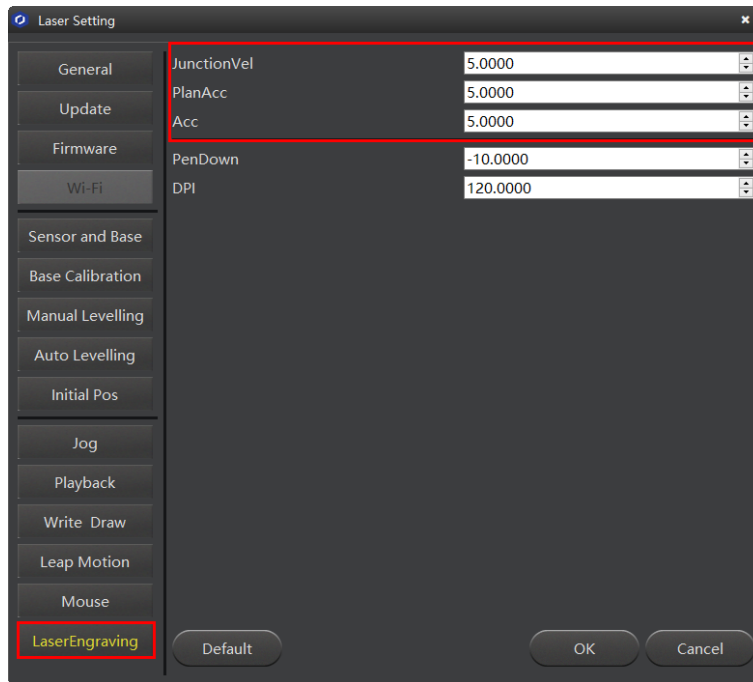

Figure 5.96 Set the parameters of laser engraving
2. Set the **JunctionVel** (junction velocity), **PlanAcc** (linear acceleration), and **Acc** (**acceleration**), for example, set all to 5, as shown in Figure 5.96.